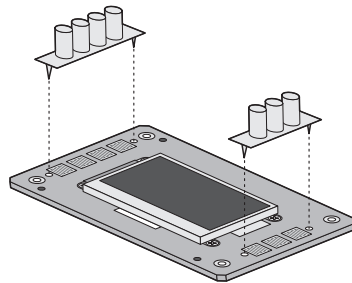

FIGURE 21: Removing/replacing the UIB buttons
6. **If you are removing the UIB to replace it with a new board, remove the UIB buttons from the old UIB (see Figure 21 on page 60).**